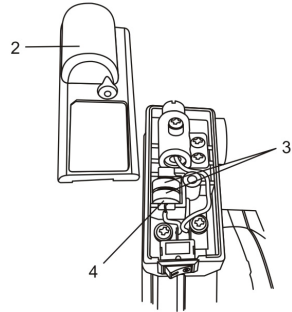

Fig.14
3. Lift the laser cover (2) off the top of the laser assembly (Fig. 14).
4. Remove the two old batteries (3).